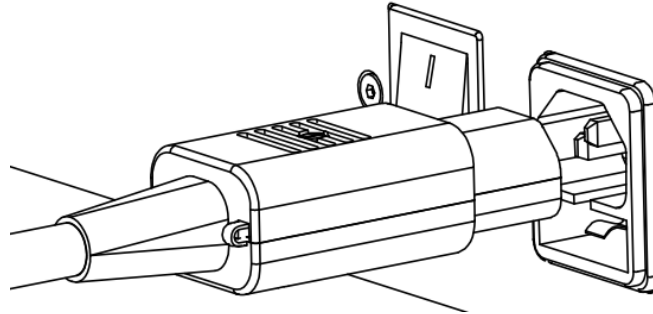

Figure 5-6 Power cord connection interface
Step1.Connect the control cabinet and insert the power cord pin shaped plug into the power cord connection port of the control cabinet (see Figure 5-6).